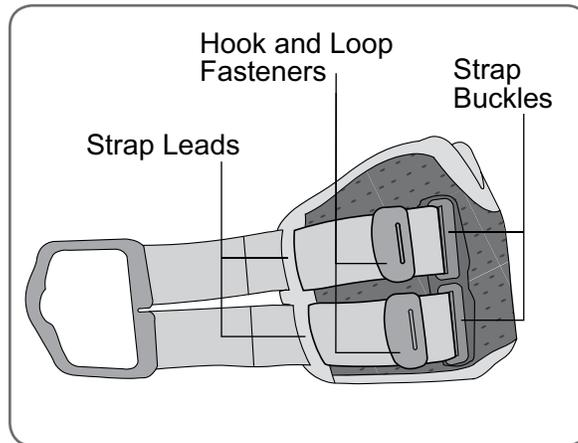

Figure 7-2: L300 FS Cuff strap attached to the L300 FS Cuff (Regular L300 FS Cuff shown).
- Slide the strap through the strap leads and buckles on the L300 FS Cuff. Make sure the hook and loop fasteners face away from the L300 FS Cuff. Press on the hook and loop fasteners to secure the strap. See Figure 7-2.